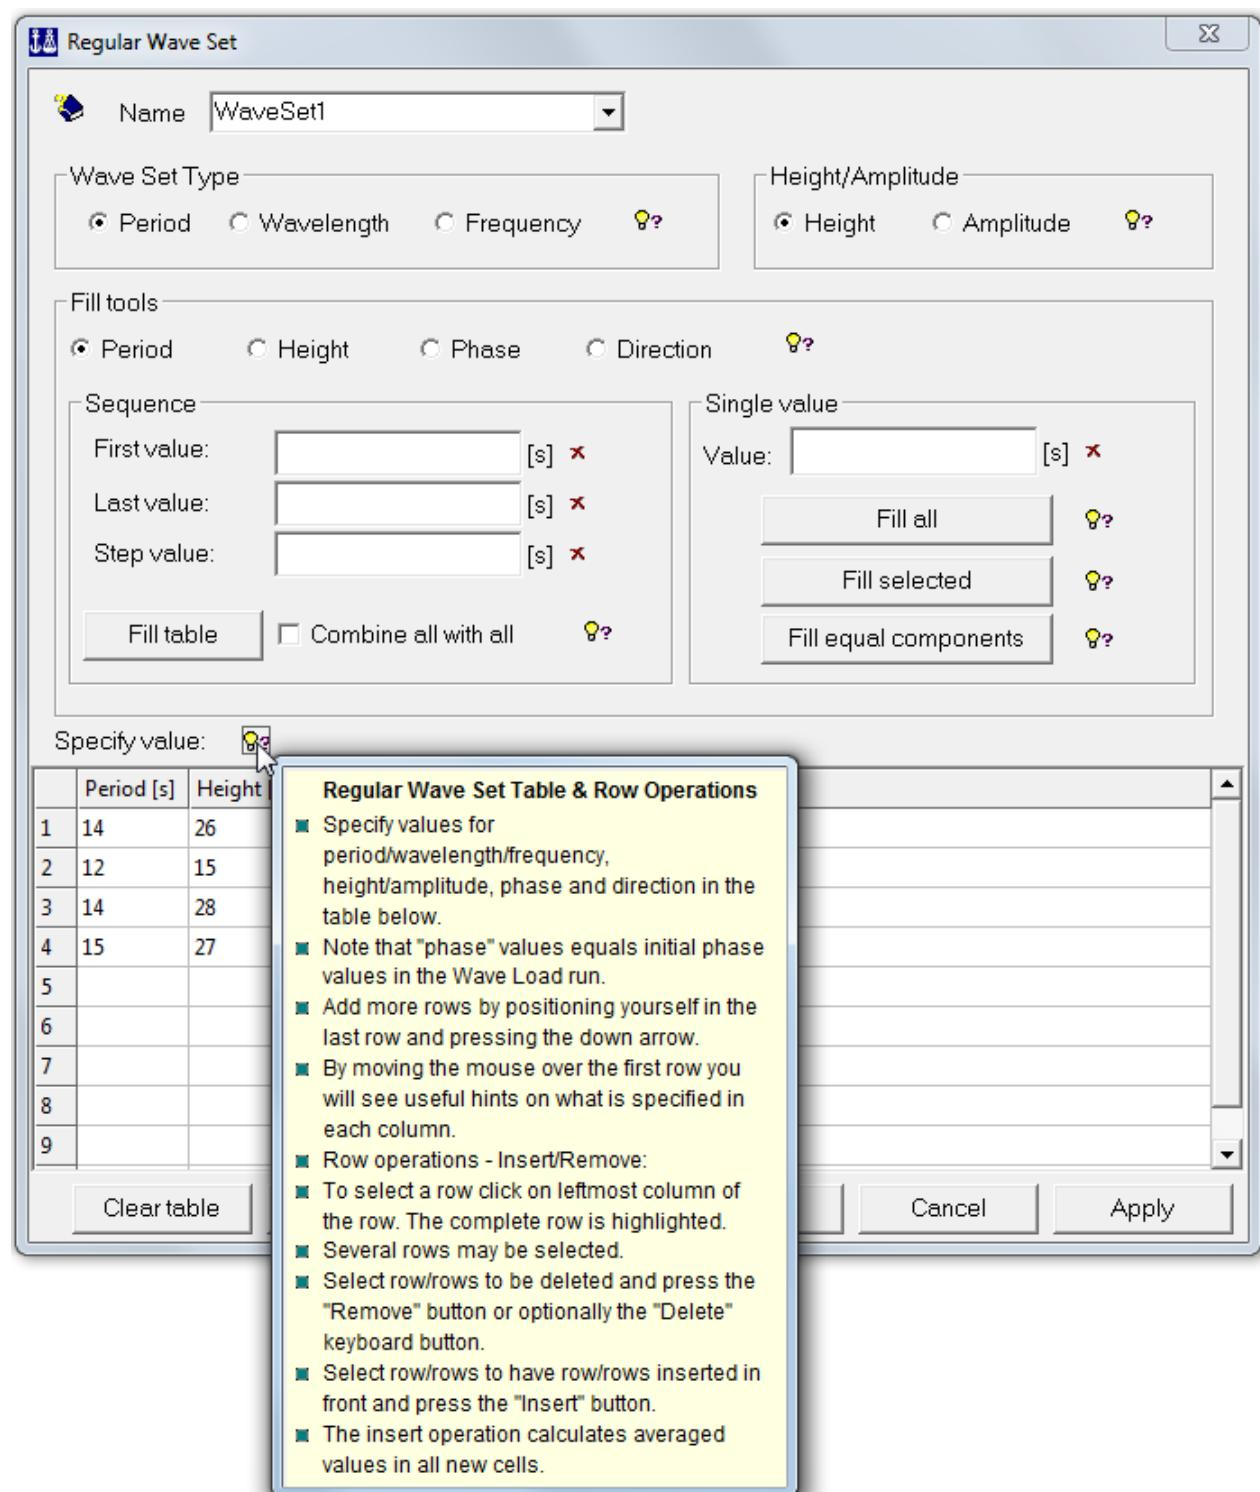

Figure 5.5 Useful hints on data to enter
- By positioning the mouse over the lightbulb (above the first row) useful hints on data to enter are provided; see Figure 5.5.